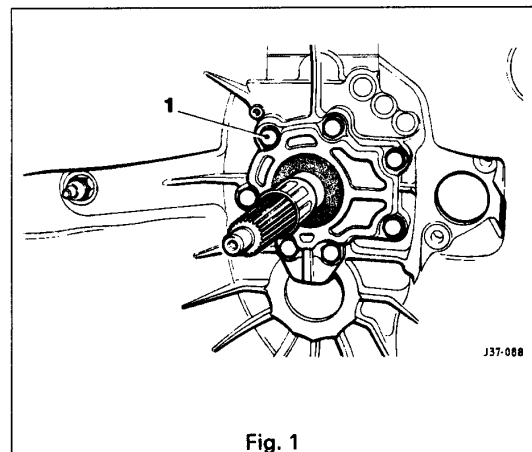

Fig. 1
- Using a suitable oil seal remover, displace and remove the rear oil seal (1 Fig. 1).